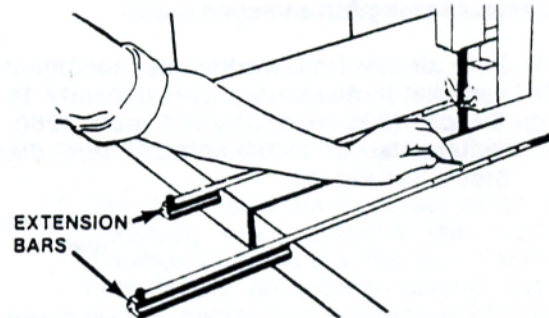

FIG. 36. TABLE EXTENSION BARS LOCK INTO TABLE T-SLOT.
- (1) Lock these two bars into table T-slots to provide adjustable outboard support for stock larger than the table itself.
- (2) Bar and studs backstop straight or irregular stock pieces at any angle. See Fig. 36.